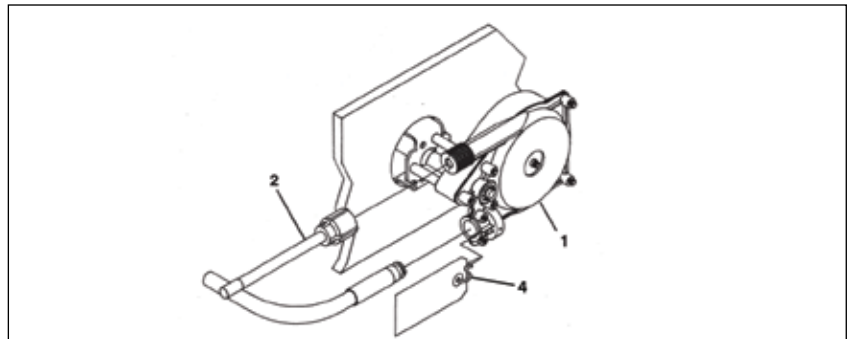

Figure 2.
STEP 2. Remove protective sleeve from cable end, making sure that dirt does not get onto the lubricated cable end. Feed cable end into **LOWER** helm entry spigot until it contacts the internal gear, then turn steering wheel to draw cable fully into the helm, (see Figure 2). Continue turning wheel until end fitting of cable is entered into the entry spigot, and wheel cannot be turned further. During this you should hear a click as the locking mechanism engages. Turn steering wheel fully in the other direction until it cannot be turned any further, check that cable end fitting is retained inside the entry spigot.
STEP 5. Feed the Spent Travel Tube (Item 2, Fig. 2) over exposed cable end and thread Retaining Nut onto spigot. Tighten nut hand tight.